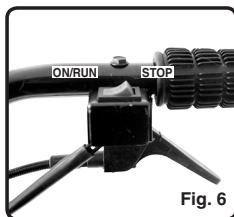

Fig. 6
2. Move the ignition switch to the "on" position. (See Figure 6)
2. Push and hold the ignition switch to the 'stop' position. (See Figure 6)